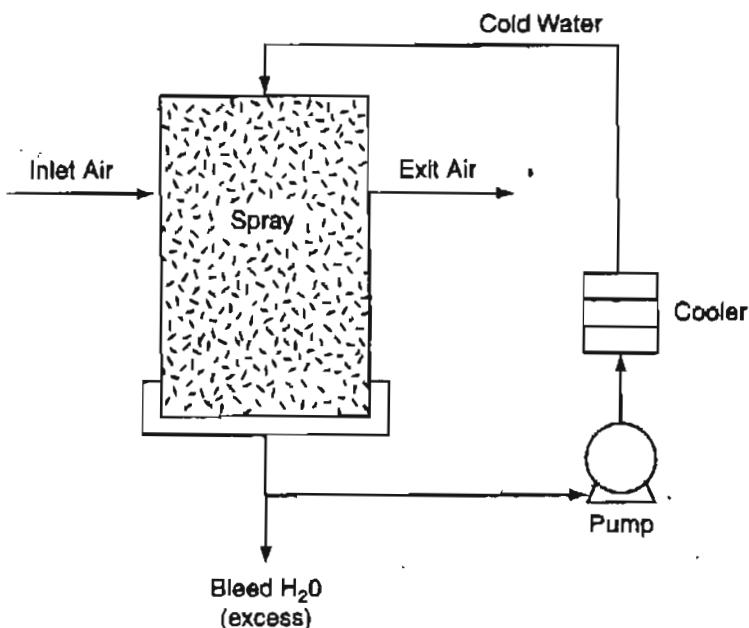

Figure SATP29.3P1
1. A process that takes moisture out of the air by passing the air through water sprays sounds peculiar but is perfectly practical as long as the water temperature is below the dew point of the air. Equipment such as shown in Figure SATP29.3P1 would do the trick. If the entering air has a dew point of 70°F and is at 40% RH, how much heat has to be removed by the cooler, and how much water vapor is removed, if the exit air is at 56°F with a dew point of 54°F ?